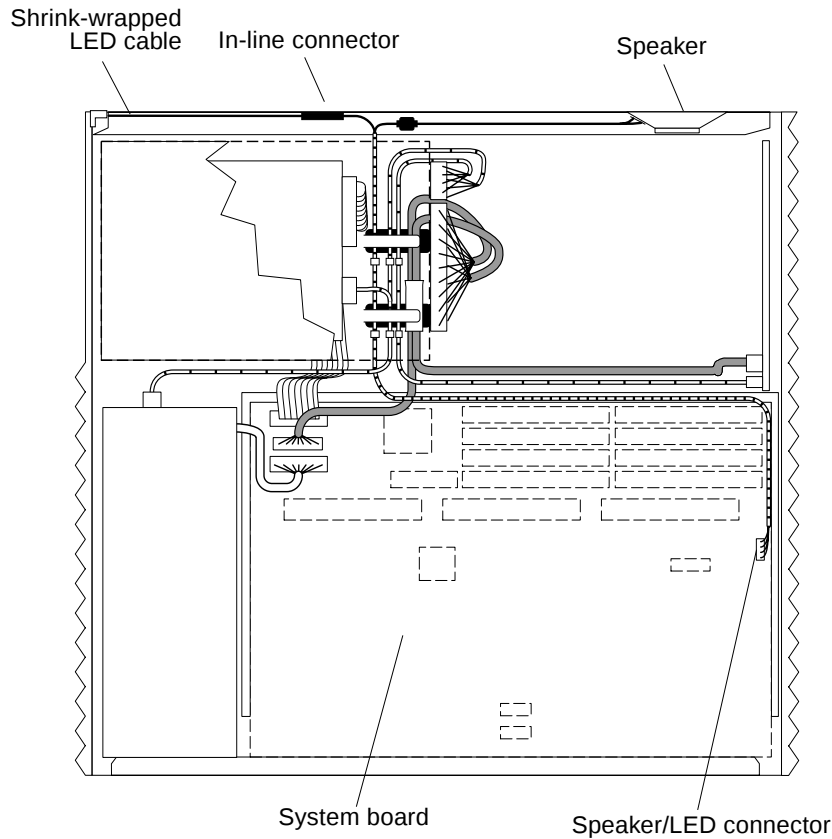

FIGURE 8-7 Speaker/LED Cable
5. Disconnect the shrink-wrapped section of the LED cable from the in-line connector (FIGURE 8-7).
3. **Route the LED wires along the top front edge of the chassis and connect them to the Speaker/LED in-line connector (FIGURE 8-7).**